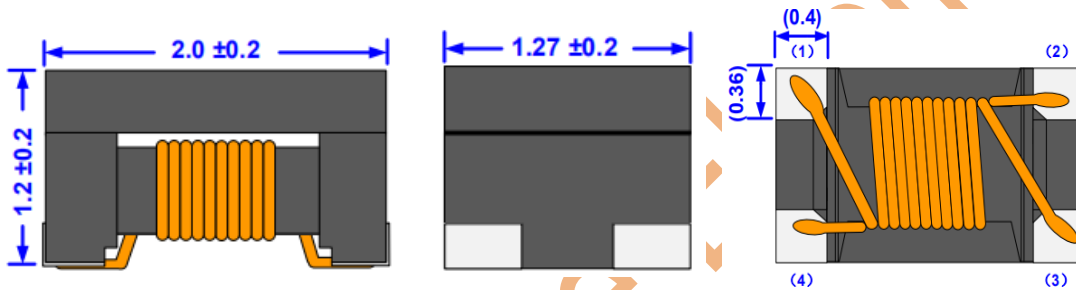

Fig.4-3 (Unit:mm)
①	Lid	Ni-Zn Ferrite
②	Epoxy	Epoxy resin
③	Wire	Polyurethane system enameled copper wire
④	Core	Ni-Zn Ferrite
⑤	Electrode structure	Ag+Ni+Sn plating
4.2 Dimensions: See Fig. 4-3.